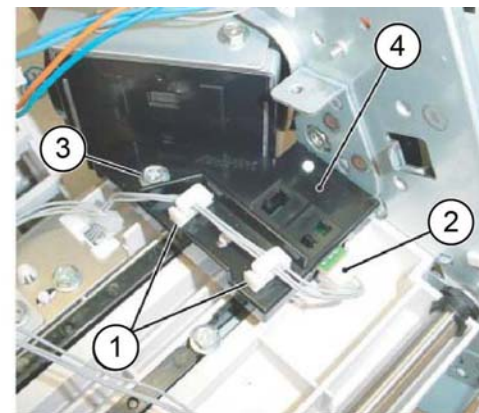

Figure 3 Rear tamper home sensor assembly removal
8. Remove the rear tamper home sensor assembly, Figure 3:
- a. Release the harness from both clamps (1).
- b. Remove the self-tapping screw (2).
- c. Move the rear tamper home sensor assembly (3) in order to disconnect the connector.